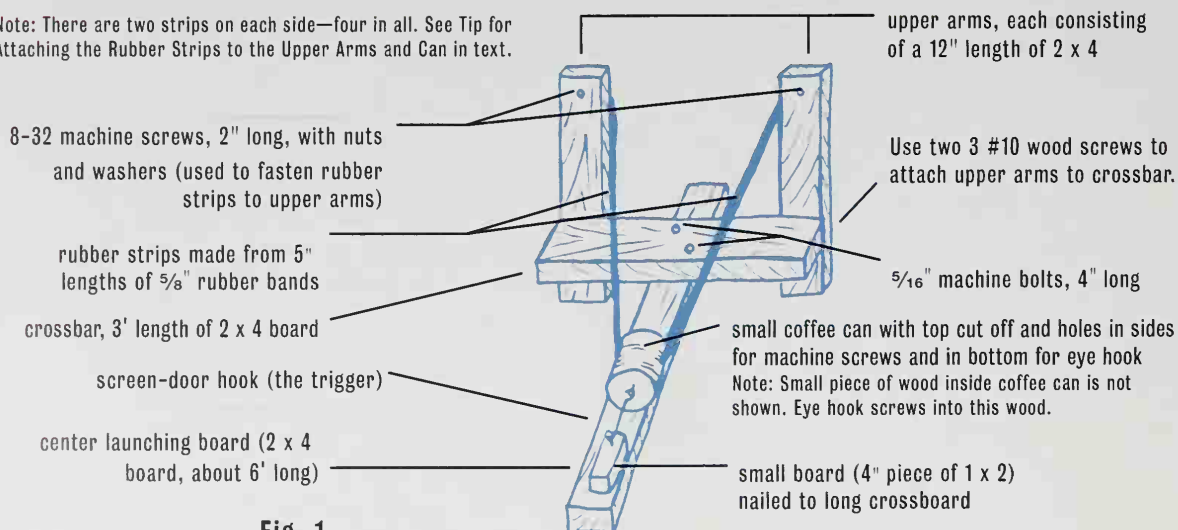

Fig. 1
2. Make sure there are no sharp edges in or on the can. If there are, use a file to smooth them. Drill two $\frac{1}{8}$ " holes in the sides of the can around 1" from top and opposite each other. These holes are for the machine screws, which are used to attach the rubber strips. Also, drill $\frac{1}{4}$ " hole in the center of the bottom of the can for the eye hook, using Fig. 1 as a guide. To attach the eye hook to the bottom of the can, first place a small piece of wood inside the can, then screw the eye hook into it.
5. Using Fig. 1 as a guide, use two 3"-long #10 wood screws to attach each upper arm to the ends of the crossbar. (Note: 16d nails can be used to do this instead of wood screws.)